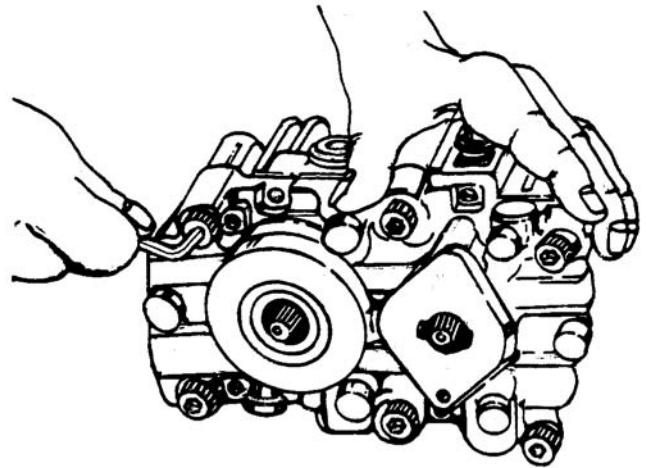

Figure 6-63. Location of Allen Head Screws
- f. Insert eight allen head screws. See Figure 6-63.